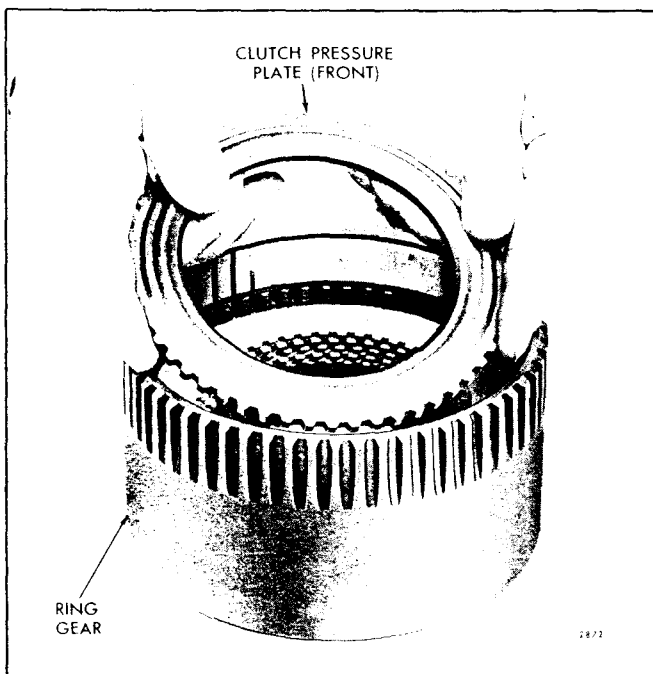

Fig. 55 - Installing Front (Forward) Clutch Pressure Plate in Ring Gear
- e. Install the front clutch pressure plate inside the planetary ring gear with the smooth flat face side down as shown in Fig. 55.